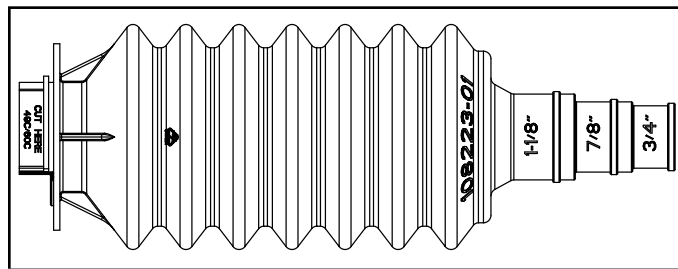

FIGURE 3. Line Set Joint Sleeve
- 2 - Determine the refrigerant suction line size. For suction lines of 7/8" or 1-1/8", trim the smaller end of the larger line set joint sleeve accordingly to accommodate the refrigerant piping (see figure 3).
NOTE - For sizes 48,49,50 and 60C, cut off marked section on line set joint sleeve (see figure 3)